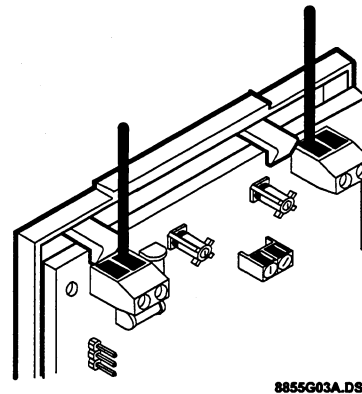

Figure 5. Connecting Expander Antennas
1. Loosen the **inside** terminals of the left and right antenna terminal blocks (see Figure 5).